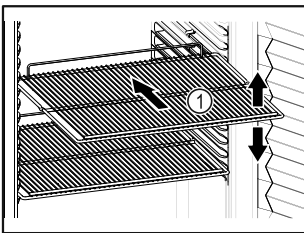

Fig. 20 Example illustration
- If there are adjustable shelves Fig. 20 (1), position them as required.